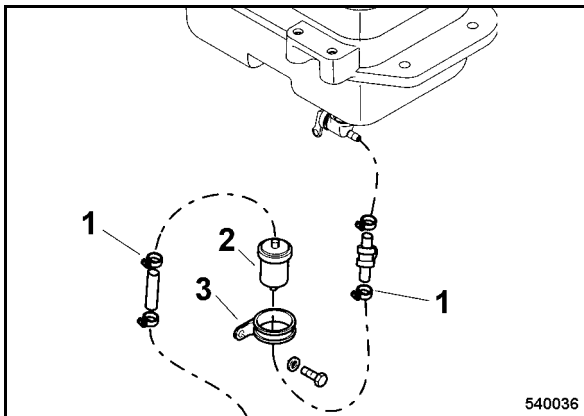

Fig. 52
- Loosen hose clamp (1) (Fig. 52) on the fuel filter and pull off the fuel hoses.
- Loosen the clamping screws (3) and take off the fuel filter (2).